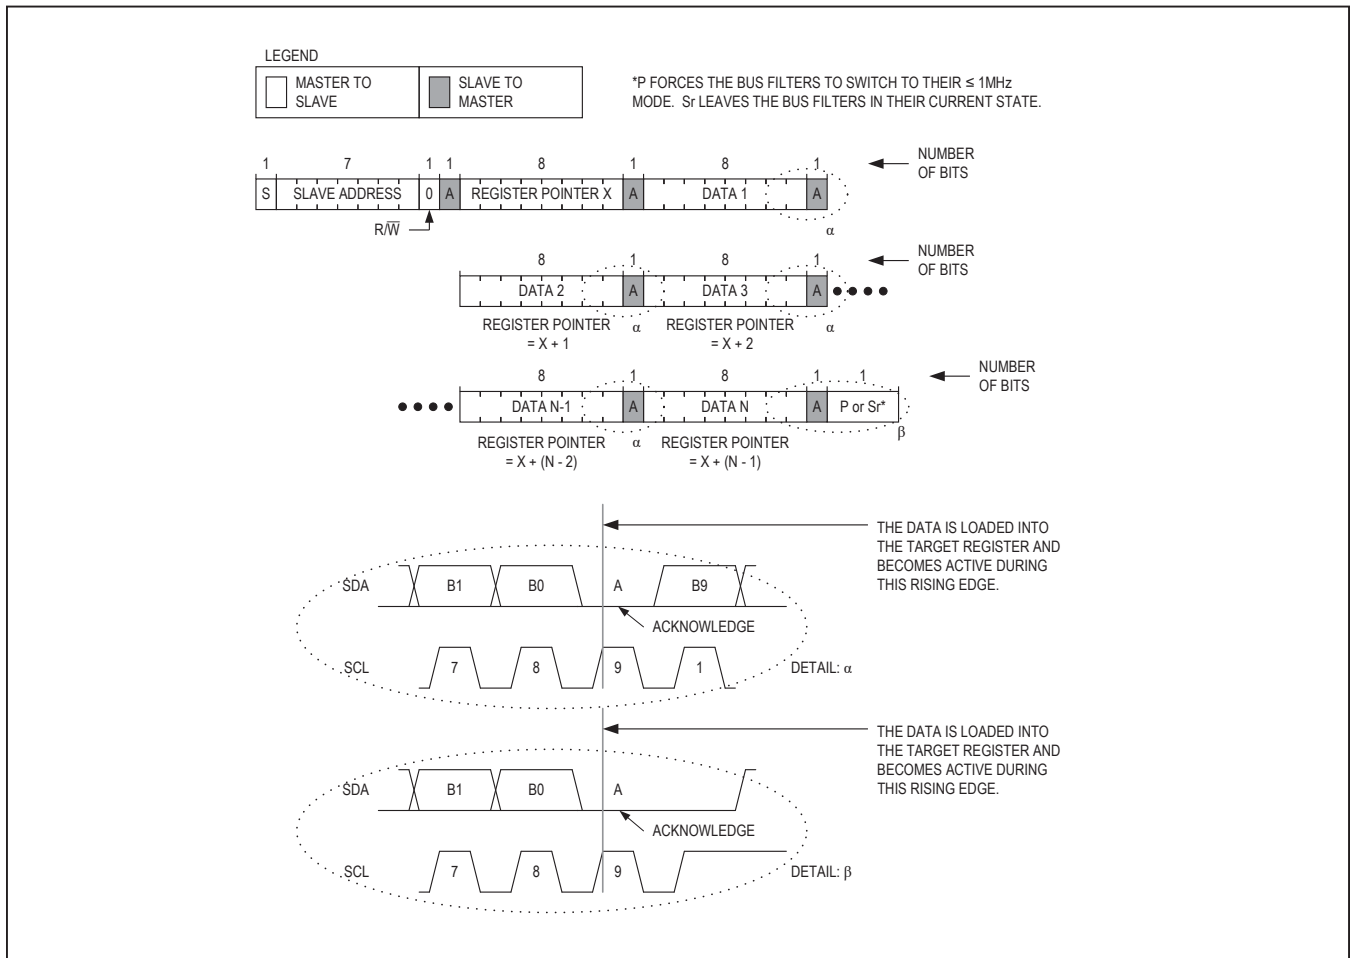

Figure 14. Writing to Sequential Registers
Figure 14 shows the protocol for writing to sequential registers. This protocol is similar to the "Write Byte" protocol, except the master continues to write after the slave device receives the first byte of data. When the master is done writing, it issues a STOP condition (P) or a REPEATED START condition (Sr).